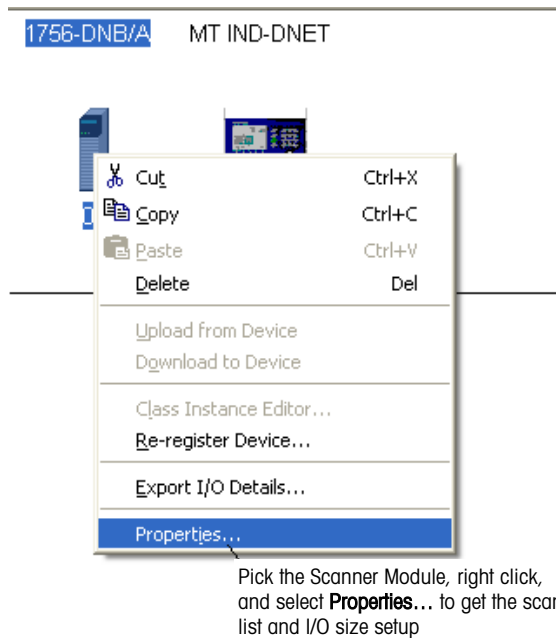

Figure 3-16: Accessing Scanner Properties
- Once the scanner has browsed the entire network, add IND Terminal to the 1756-DNB/A's scanlist by right-clicking on the scanner icon in the Graph window (note the tab at the bottom of Figure 3-16), and choosing Properties...